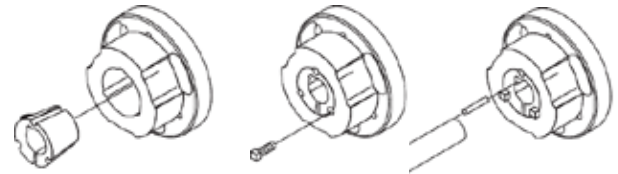

FIGURE 16: BUSHING SHAFT INSTALLATION
6. Take the engine coupler half and place a 1 inch bushing into the center of the coupler aligning the 3 open holes. Take 2 square head cap screws and screw finger tight into the two opposite holes across from each other on the bushing. Take 1/4" slotted key, install between bushing and slide coupler half onto the engine shaft. Leave loose and go to step 7. Reference Figure 16.